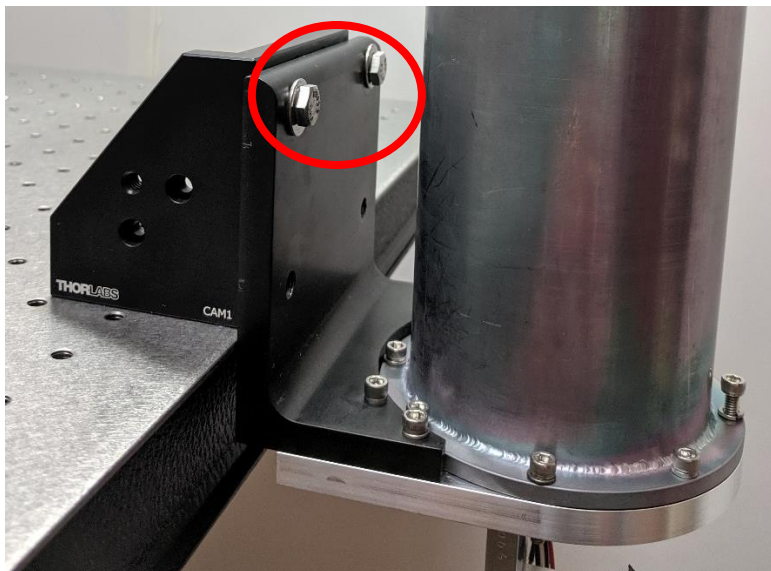

Figure 68: Herriott Cell Secured to L-bracket Mount
4. Secure the Herriott cell to the L-bracket mount by fastening bolts or screws as shown in Figure 68.